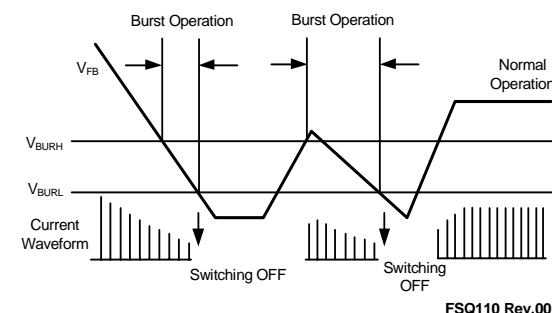

Figure 17. Burst Operation Function
**6. Burst Operation:** To minimize power dissipation in standby mode, the FPS enters burst-mode operation. Feedback voltage decreases as the load decreases, as shown in Figure 17, and the device automatically enters